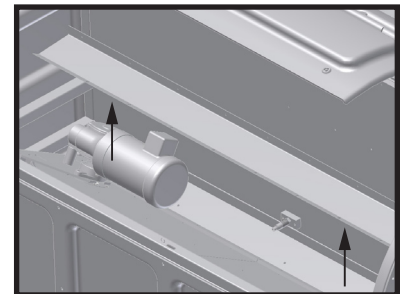

Figure 2.2
8. If the Magnum™ Ball Dispenser jams, it will automatically reverse dispensing direction (3) times to eliminate jam. If machine remains jammed:
- b) Remove ball access panel (see figure 2.2).